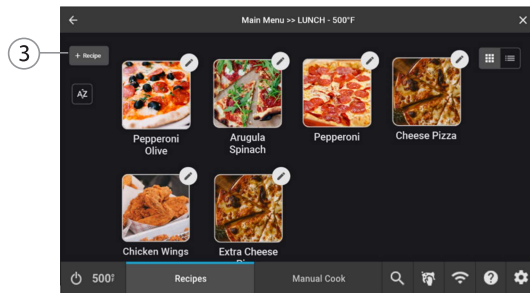

Figure 32: Add Recipe to Group
3. Touch the “+Recipe” button (Figure 32, above).